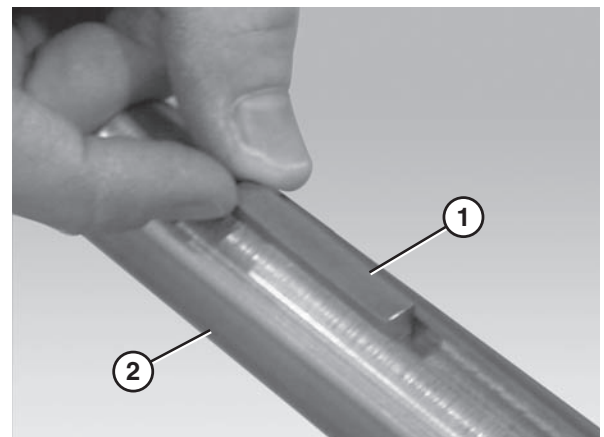
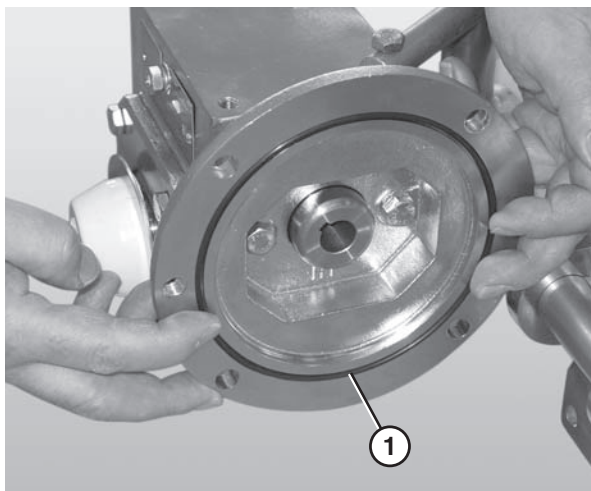

Figure 28
Figure 29
8. Insert the gearmotor output shaft key (**Figure 28, item 1**) into the gearmotor output shaft keyway (**Figure 28, item 2**).
Ensure the O-ring (Figure 29, item 1) and gearmotor output shaft key (Figure 28, item 1) are situated properly before attaching the motor to the gear reducer.